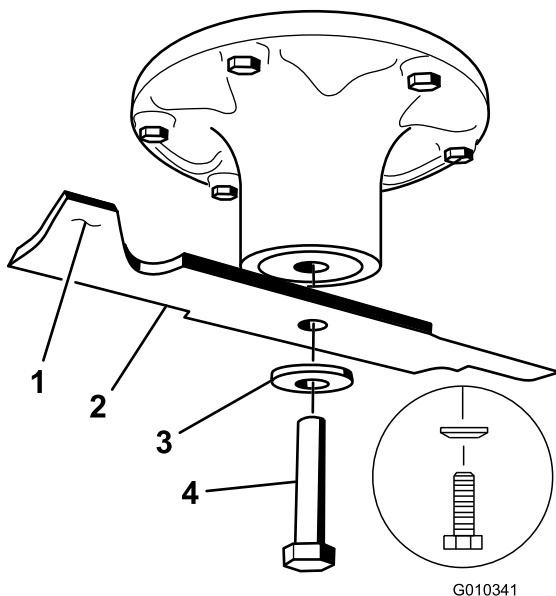

Figure 58
2. Remove the blade bolt, curved washer, and blade from the spindle shaft (Figure 58).
1. Install the blade onto the spindle shaft (Figure 58).
2. Install the spring disk and blade bolt with the spring disk cone installed toward the bolt head (Figure 58).